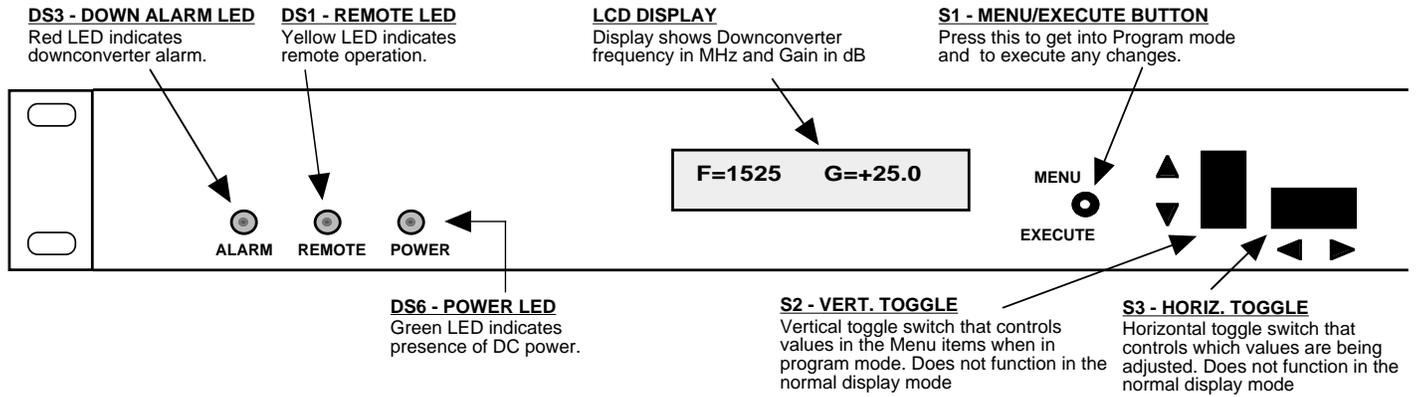

FIGURE 2.3 2016-03 Front Panel Controls and Indicators
6. Be sure DS6 (green, DC Power) is on and DS3 (red, Alarm) is off (Figure 2.3).
Alarm indications appear on the LEDs (See figure 2.3).